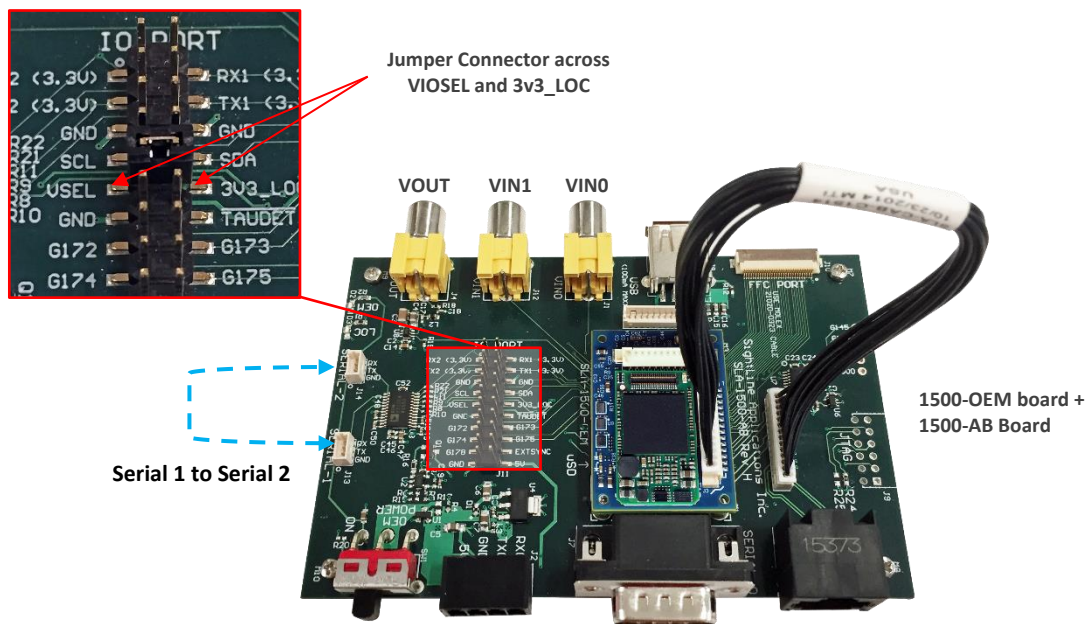

Figure 17: Serial 1-to-Serial 2 On-Board Test
A jumper must be in place across VIOSEL and 3v3_LO as shown in Figure 17. Connecting VIOSEL to 3.3V enables Serial Port 1 and Serial Port 2.
1. Using two terminal windows (both windows using SSH), connect Serial-1 to Serial-2 as shown in Figure 17.